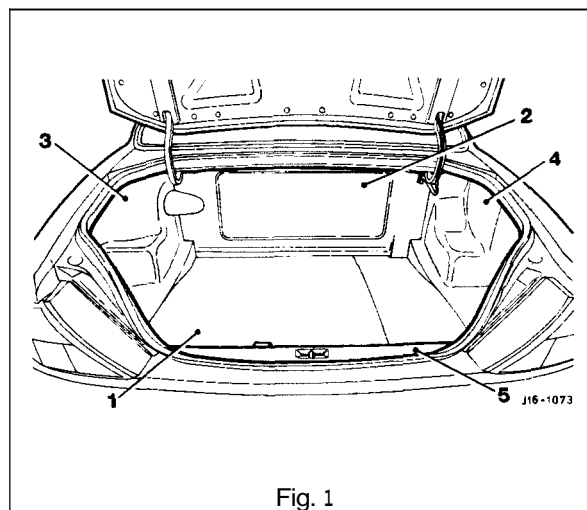

Fig. 1
- Remove the trunk floor carpet (1 Fig. 1), see subsection 13.4.4.
- Remove the trunk front liner (2 Fig. 1), see subsection 13.4.5.
- Remove the trunk seal retainer (5 Fig. 1), see subsection 13.4.6.